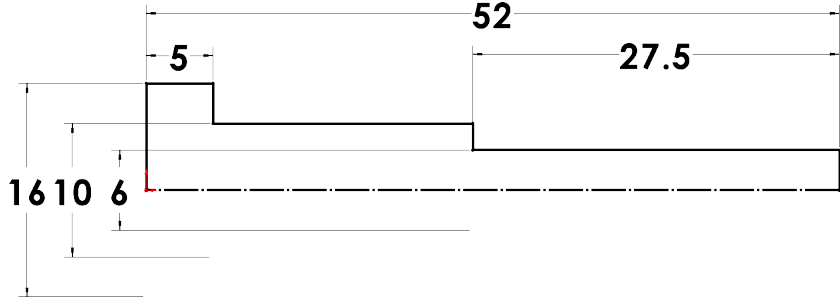

Fig. 3
Step 5. Click **Smart Dimension**  (S) on the Sketch toolbar.
Step 6. Add dimensions, **Fig. 3**. Dimension **double distance** the heights. To double distance dimension, click centerline and then a horizontal line, move cursor to left of sketch (Origin) and click. Key-in dimension in the Modify box and press ENTER. Double distance 16, 10 and 6 dimension.